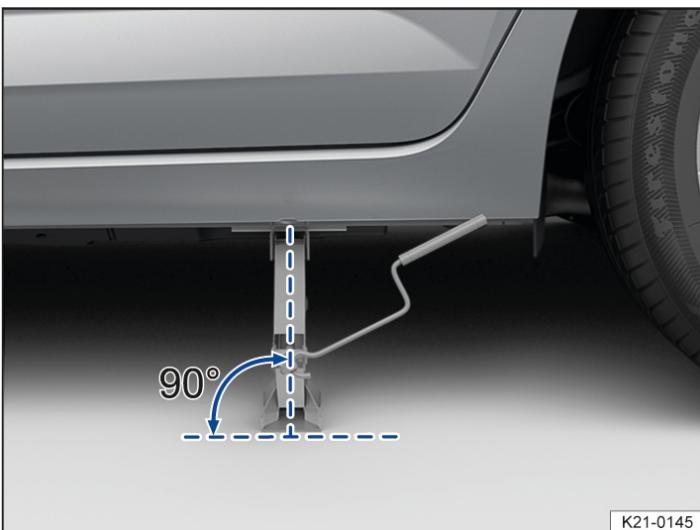
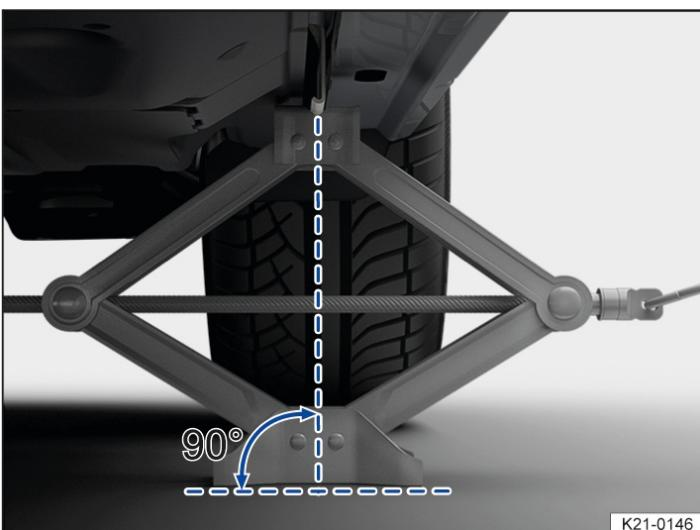

Fig. 2 Correct alignment of the jack.
Fig. 3 Jack applied at the rear left-hand side of the vehicle.
12. Make sure that the entire surface of the foot of the jack is resting securely on the ground and that the foot of the jack is positioned vertically directly beneath the jacking point → Fig. 2 and → Fig. 3.
13. Position the jack and simultaneously continue to crank the claw up until it is in position around the jacking point underneath the vehicle → Fig. 3.
- Fit the jack only at the described jacking points. The jack claw must grip the vertical rib under the side member securely → *Fig. 3*.